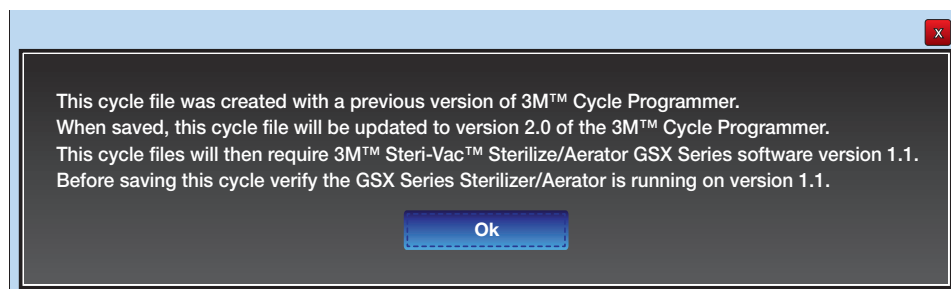

Figure 39.
3. This message will appear upon opening a custom cycle if potential conflicts exist between software versions of the saved custom cycle, the 3M Cycle Programmer, and the sterilizer software version (Figure 39). For more information, in the US contact 3M Health Care Helpline at 1-800-228-3957. Outside the US contact your local 3M office or to locate your local office go to www.3M.com.